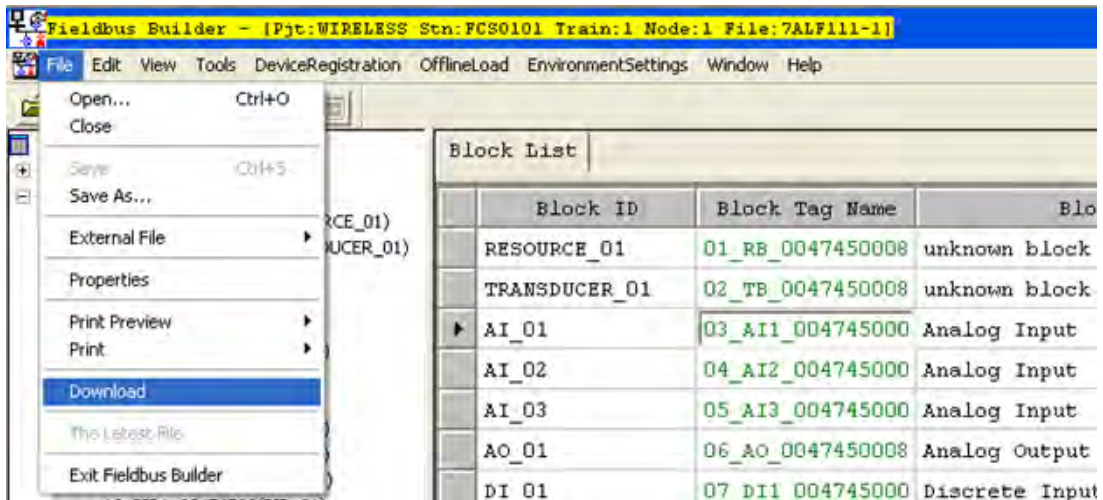

Figure 81 Download Function
1. Click **File->Download** menu in the *Fieldbus Builder* to download the modified parameters to the device (Figure 81).